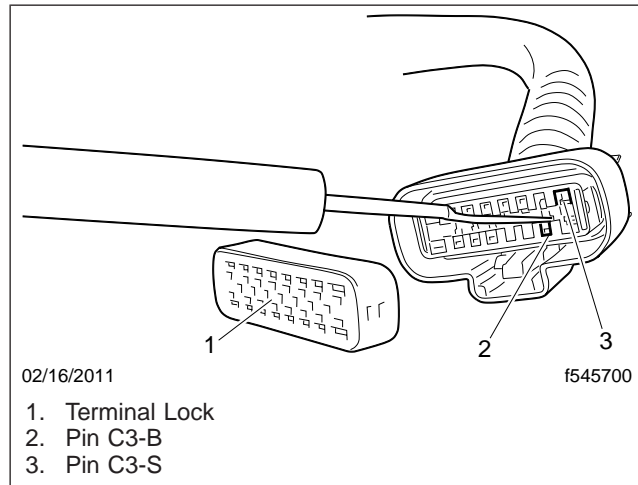

Fig. 1, Removing J1587/1708 Wires from Connector C3
3. Remove the J1587/1708 wires from connector C3. See **Fig. 1**.